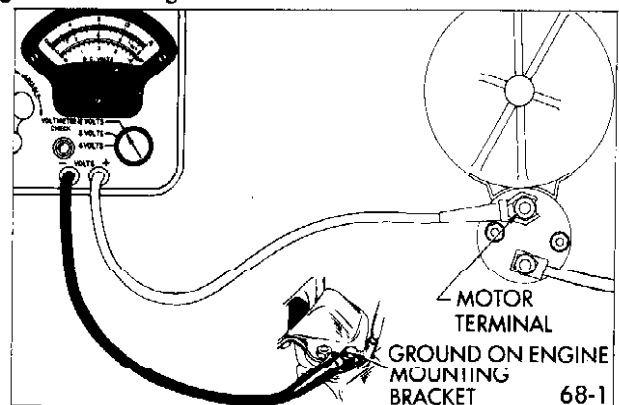

Figure 68-1--Cranking Voltage Test Connections
3. Connect voltmeter positive lead to the motor terminal on solenoid switch; connect voltmeter negative lead to ground. See Figure 68-1.